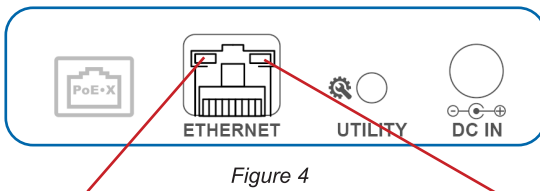
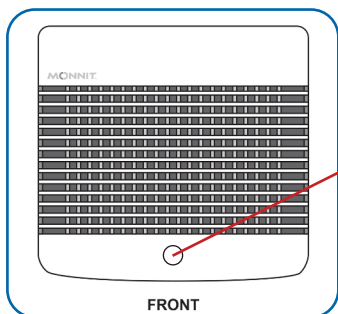

Figure 4
Figure 5
**Operational stage:** In the operational stage, the Ethernet lights will remain active while the Sensor Status light remains off — unless there is an issue. See Figure 4 & Figure 5.